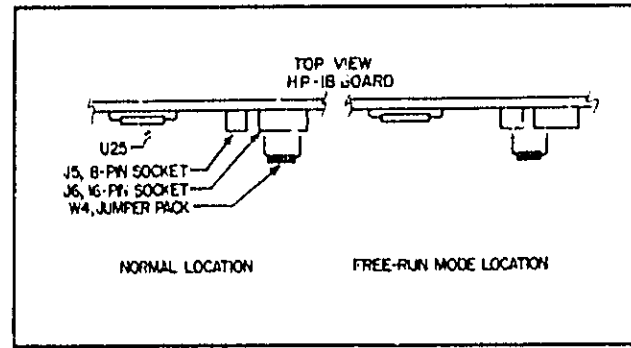

Figure 5-13. Free-Run Mode Jumper Pack
- b. A8W4 is a 16-pin jumper pack located on the HP-IB board. J6 means that the W4 jumper pack is plugged into the 16 pins of J6; *between J5 and J6* means that W4 is connected between J5 and pins 1 through 8 of J6. See Figures 5-13 and 7-7. To move A8W4, first turn off the unit. Use an I.C. removal tool, or, using a small-blade screwdriver, first pry up one end and then the other end of the jumper pack a little at a time. Be careful not to bend the pins. Be especially careful that all pins are properly located in the socket before pressing the jumper pack down in place.